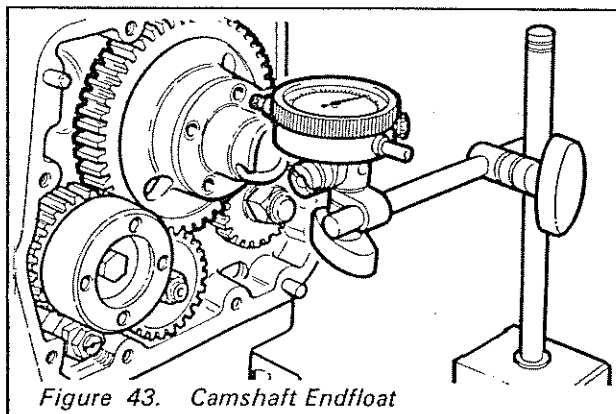

Figure 43. Camshaft Endfloat
6. Check the camshaft end float using a dial indicator as shown in Figure 43; this should be 0.127-0.305mm (0.005-0.012in) and is not adjustable.